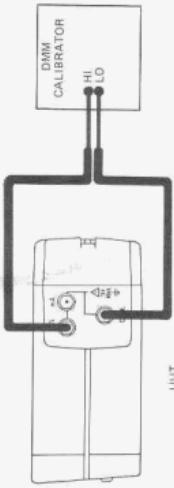

Figure 3-1. Voltage and Resistance Test Setup
(2) Select the 200-ohms range on the UNIT.
(3) With input terminals still shorted, verify that the down arrow appears in the UNIT display.
(4) Disconnect short from UNIT input terminals and verify that the up arrow appears in the UNIT display.
(5) Select the DC V function, 2V range on the UNIT.
(6) Connect the equipment as shown in fig. 3-1.
(7) Program the DMM calibrator for a UNIT input of -1.0 Vdc and verify that the minus (-) sign appears in the UNIT display.
(8) Verify that the UNIT bargraph segments 0, 5, 10, 15, 20, and the first segment above the 0 are visible.
(9) Program the DMM calibrator for a UNIT display of 1.888 and verify that all segments of each digit appear in the liquid crystal display.
(10) Program the DMM calibrator so that each possible number appears in each digit of the UNIT display (3-1/2 digit).
(11) Select the ohms function on the UNIT and verify that all the bargraph segments are off.
(1) Select the DC V function on the UNIT.
(2) Connect the equipment as shown in fig. 3-1.
(3) For each step in table 3-2 select the listed UNIT range, program the DMM calibrator for the corresponding UNIT input, and verify that the UNIT displayed value is within the limits listed.
(4) Remove the short from UNIT input terminals and connect the equipment as shown in fig. 3-1.
(5) For each step in table 3-3 select the listed UNIT range, program the DMM calibrator for the corresponding UNIT input, and verify that the UNIT displayed value is within the limits listed.
(1) Select the AC V function on the UNIT.
(2) Connect a short between the COM and V-ohms input terminals on the UNIT.
(3) Select each AC V range while observing UNIT display. For each range, the indication shall be 000 (with appropriate decimal point) within 2 counts for the UNIT digital and bargraph displays.
(1) Select the ohms function on the UUT.
(3) For each step in table 3-4 select the listed UUT range, program the DMM calibrator for the corresponding UUT input, and verify that the UUT displayed value is within the limits listed.